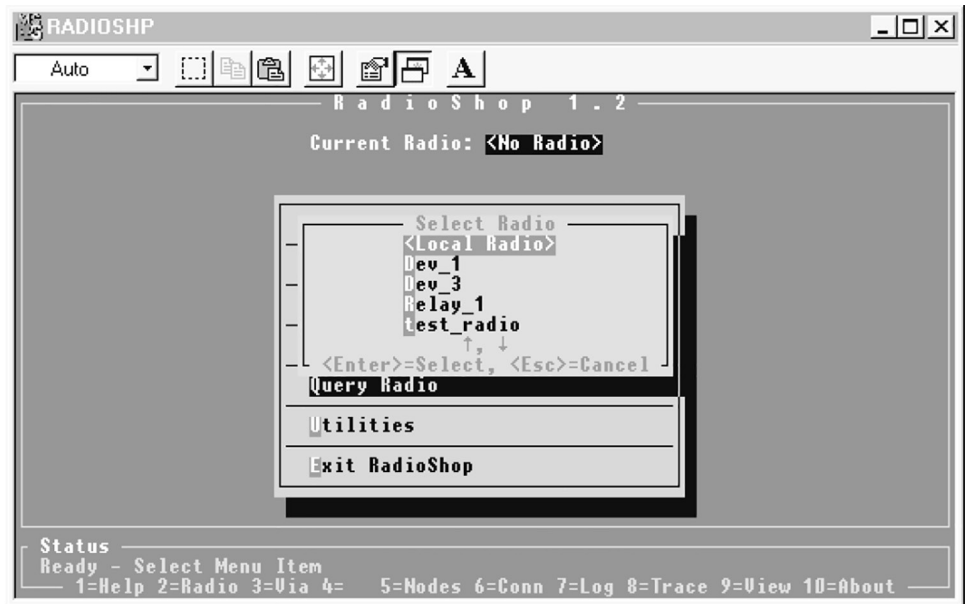

Figure 7. The *Select Radio* screen shows the radio list.
- (a) At the RadioShop *Main Menu* screen, press the <S> key to open the *Select Radio* screen that shows the list of radios in the Nodes table. See Figure 7.
- (a) At the RadioShop *Main Menu* screen, press the <S> key to open the *Select Radio* screen that shows the list of radios in the Nodes table. See Figure 7 on page 11.